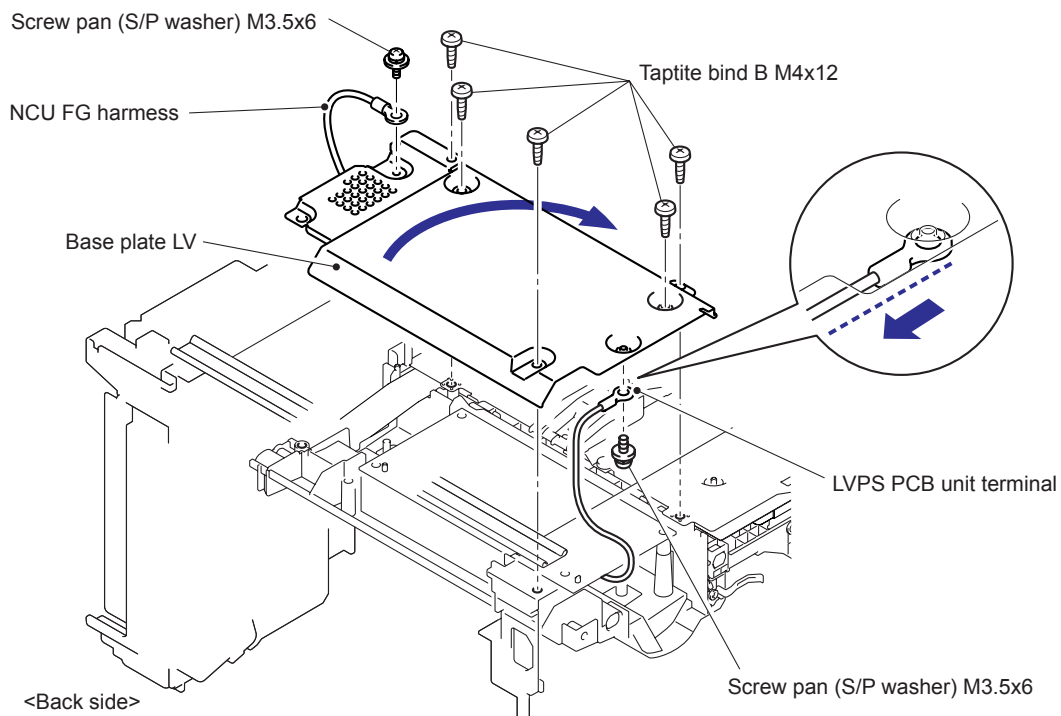

Fig. 5-247
- When assembling the Base plate LV, Direct the cable side of the LVPS PCB unit terminal to the backward (Fig. 5-247: To the direction of an arrow of the enlarged illustration.), and align parallel the LVPS PCB unit terminal with the side of the Base plate LV.
- (5) Remove the two bind B M4x12 Taptite screws, and then remove the LV insulation sheet.